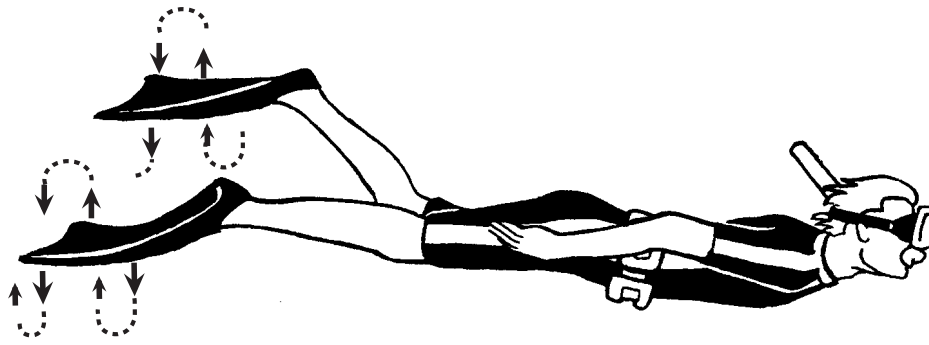

Figure 139.2 Correct finning method
Remember to push down with your top foot and up with your bottom foot as shown in Figure 139.2.
3. Figure 139.2 shows a skindiver finning.